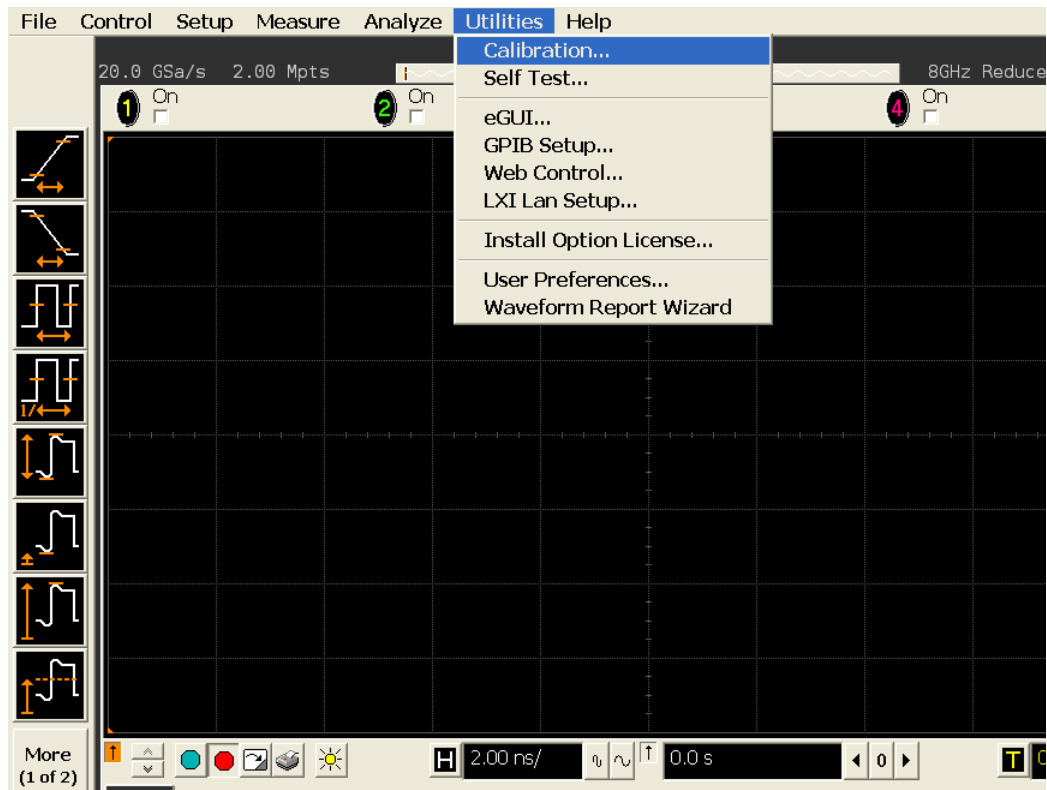

Figure 88 Accessing the Calibration Menu
- 3 Referring to Figure 88 below, perform the following steps: